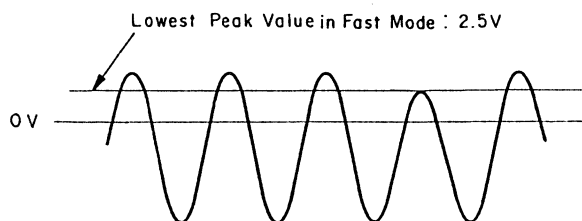

Fig. 4.7
- Set the N-1000ZXL in Fast (F.F. or Rewind) mode, then adjust VR901 on the Detector P.C.B. Ass'y so that the lowest plus peak value of waveforms does not lower than 2.5 V DC as shown in Fig. 4.7.